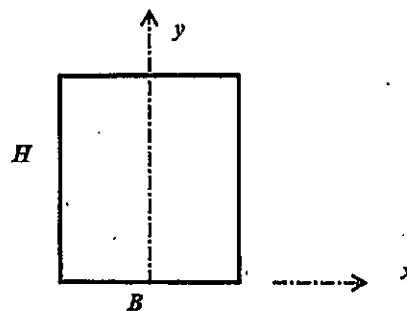

Fig.2 長方形断面
- 3) Fig.2 に示す長方形断面を有する梁の曲げを考える。
Considering a rectangular cross-section in Fig.2. Answer the maximum shear stress  $\tau_{\max}$  subjected to a shear force  $Q$  in the negative  $y$  direction, i.e.,  $-y$  direction.
図-2 (Fig. 2)
An embankment shown in Fig. 2 was instantly constructed on the clay ground. Illustrate distributions of total vertical stress, effective vertical stress and pore water pressure in the clay ground along the depth, for the three stages which are before the embankment construction, immediately after the construction and long time after the construction. Besides that, obtain total vertical stress, effective vertical stress, and pore water pressure at point A and point B mobilized at the above three stages. It can be assumed that the clay ground was loaded under the  $K_0$  condition. Point B is located at a depth of 5m.